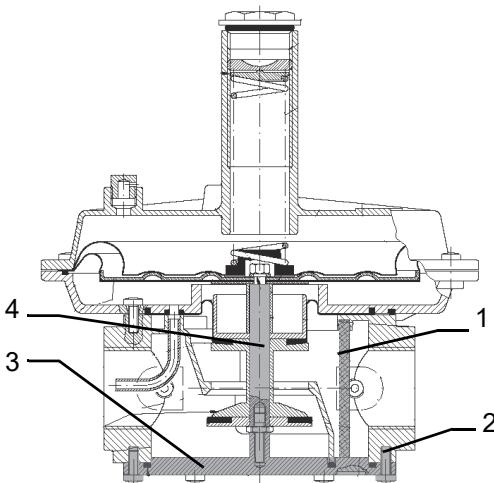

Fig. 11 - threaded body
To check the filtering part (1) on threaded bodies (see picture Fig. 11):
- remove the filtering part (1), clean it with water and soap, blow it with compressed air or replace it if necessary;
- reassemble the filtering part in its initial position checking that it is placed in its own slots (see picture Fig. 11);
- reassemble the bottom cover (3), being sure that the main bolt is centered in the bottom cover slot.